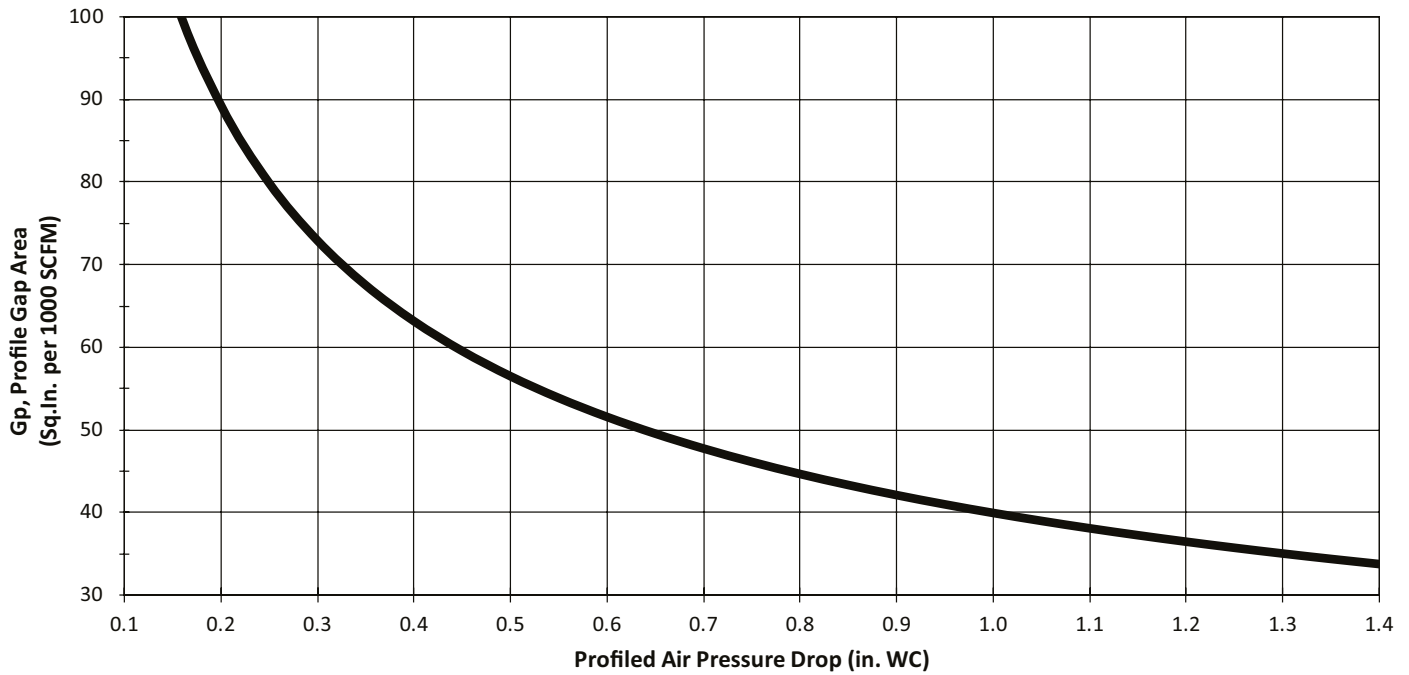

Fig. 7. Profile Gap Area vs. Air Pressure Gap
- G_p = Profile gap area required per flow from Figure 7 (Profile Gap Area vs. Air Pressure Gap); see Table 6 and 7 (Profile Gap Correction Factors) for corrections at other Temperature (T_p) and Elevation (E_p) conditions.
From Figure 7 (Profile Gap Area vs. Air Pressure Gap: $G_p = 47.7$, $T_p = 1.0$, $E_p = 1.0$)